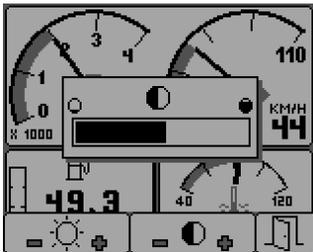

Figure 7.2.2: Contrast Adjust
- ▶ Adjusting the contrast of the LCD to an optimum level ensures that the display is clearly legible and that grey-scales are appropriately displayed. Contrast is reduced by pressing key #3 (which will tend to lighten the display) and increased by pressing key #4 (which will tend to darken the display) (see *figure 7.2.2*).